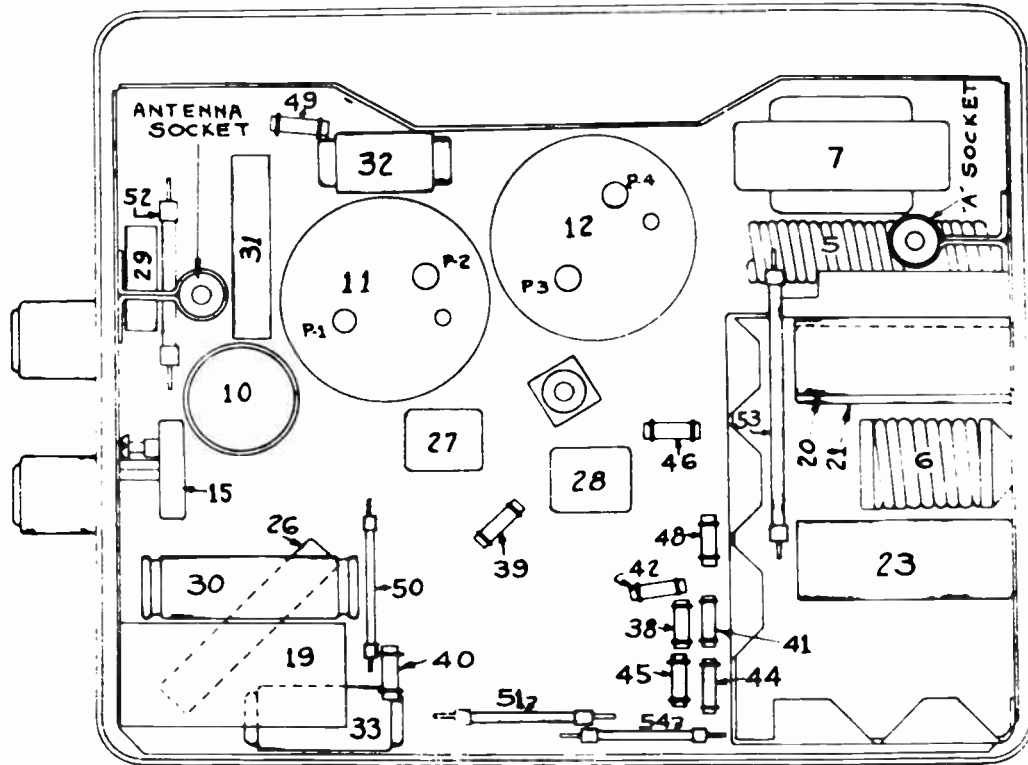

FIG. 3 PARTS LAYOUT--BOTTOM VIEW
- Peak each of the I.F. trimmers on the 2nd I.F. coil, Illustration #12 on Fig. 3.
- Then peak each of the trimmers on the 1st I.F. coil, Illustration #11 on Fig. 3.